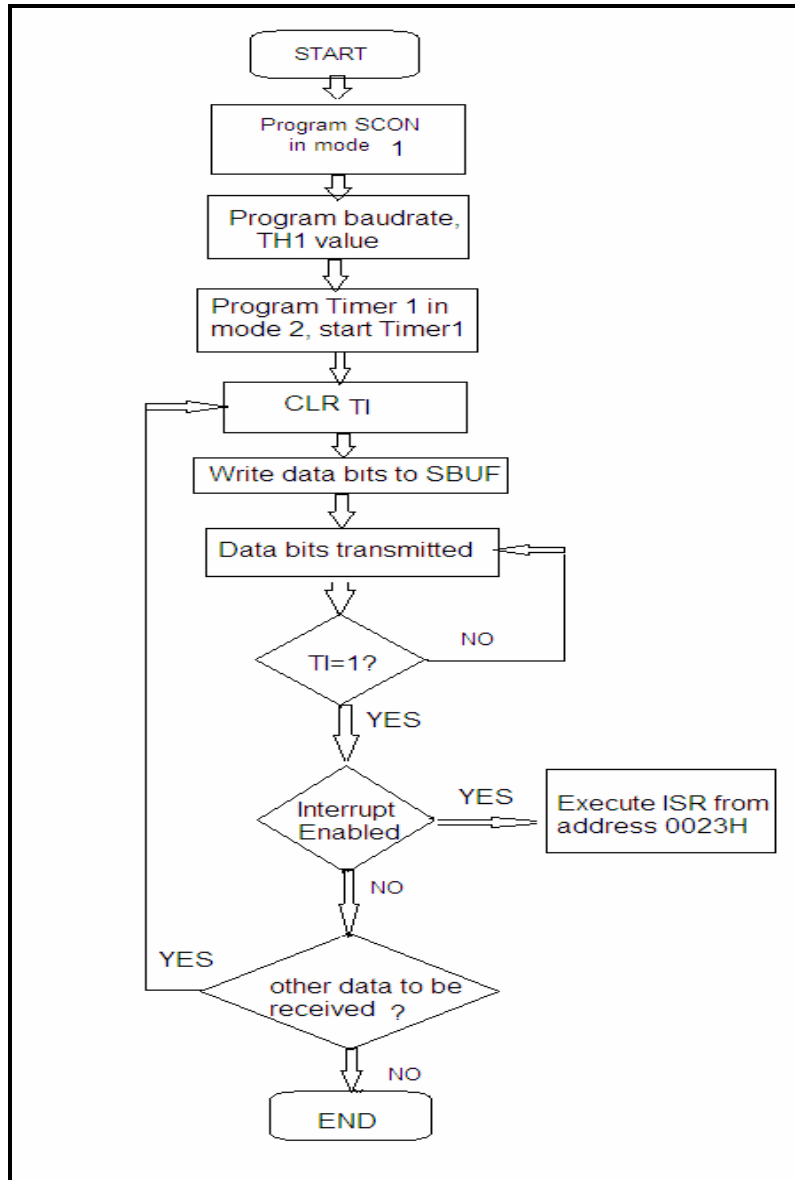

Fig. 2-8-9 Control flow of serial port mode 1 transmission
- (1) Transmit: See Figure 2-8-9.